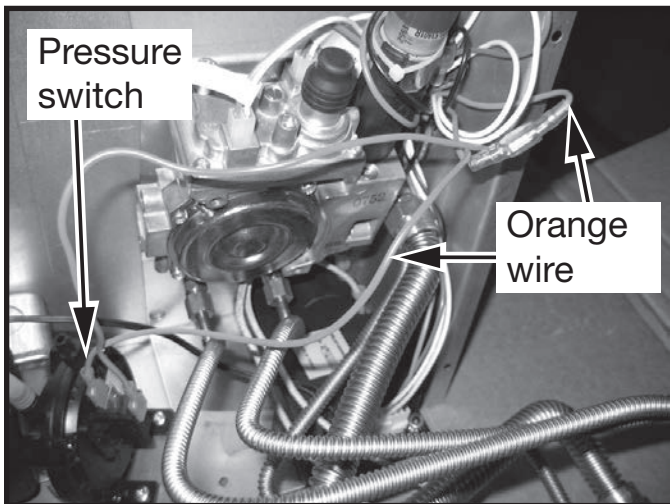

Figure 8: Pressure switch jumper wires.
5. Connect the pressure switch jumper wires to the orange wire (Figure 8).